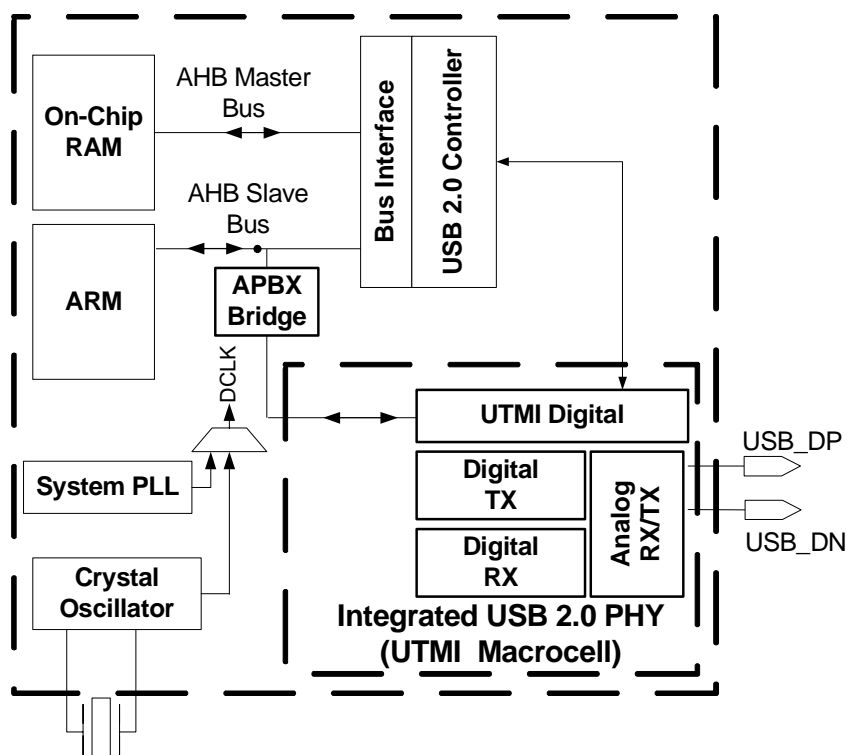

Figure 27. USB 2.0 PHY Block Diagram
The STMP3770 contains an integrated USB 2.0 PHY macrocell capable of connecting to PC host systems at the USB full-speed (FS) rate of 12 Mbits/s or at the USB 2.0 high-speed (HS) rate of 480 Mbits/s. See Figure 27 for a block diagram of the PHY. The integrated PHY provides a standard UTM interface. The USB_DP and USB_DN pins connect directly to a USB device connector.